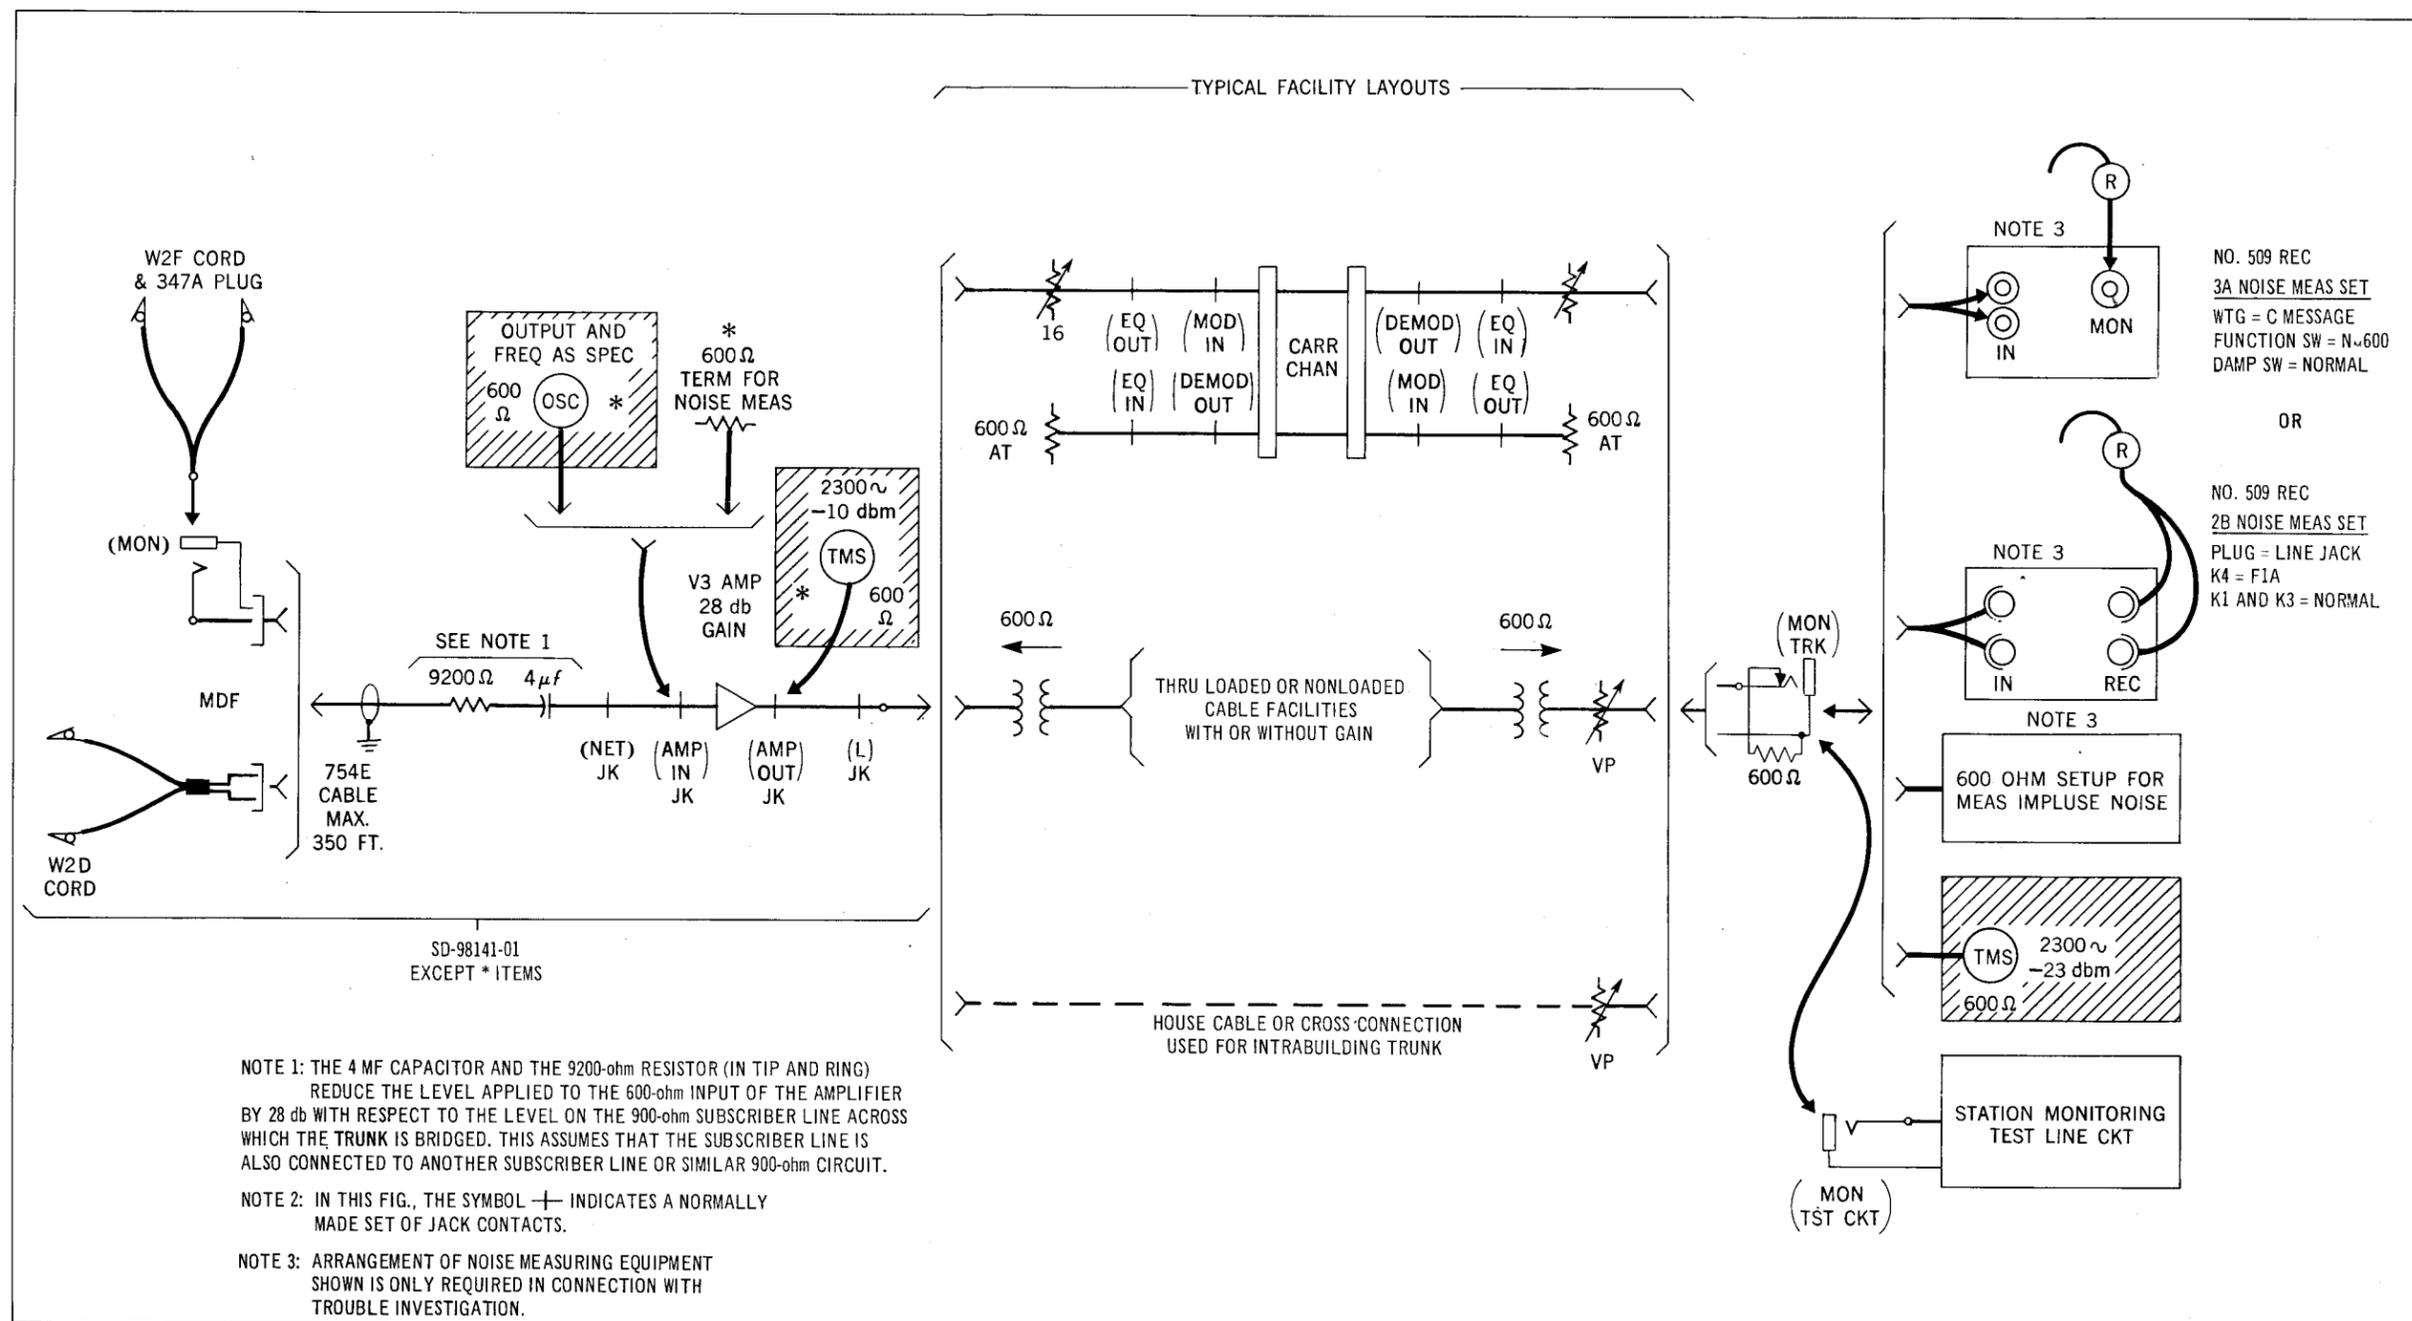

Fig. 2 - Block Diagram
1.02 This trunk consists of the facilities and equipment used between a (MON TRK) test jack in a testboard or serviceboard, located at a data systems test center, and a (MON) test jack(s) at a switching office MDF. In some switching offices, where local conditions permit, a test cord may be used in lieu of the (MON) jack(s). The switching office may be in the same building with the test center or it may be located remotely (in the same or another city) with respect to the test center. Typical layouts are shown in foldout Fig. 2.
- Step 1: At the serving central office, adjust output of a 600-ohm oscillator (e.g., a 21A TMS) to produce an output of -38 dbm at 2300 cps. Connect oscillator to the (AMP IN) jack as shown in Fig. 2.
- Step 2: Connect a 600-ohm transmission measuring set (e.g., 21A) to the (AMP OUT) jack shown in Fig. 2.
- Step 1: Adjust oscillator to produce an output of -38 dbm at 2300 cps. Connect oscillator output to (AMP IN) jack as shown in Fig. 2.